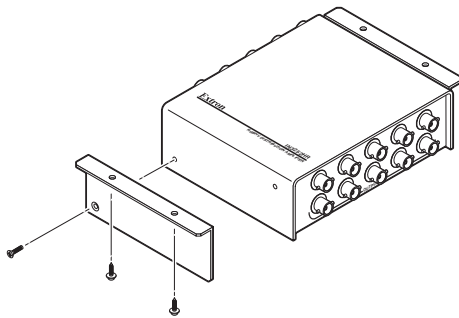

Figure 2 — Desk mounting the IN3252HR
1. Attach the mounting brackets to the distribution amplifier with the provided machine screws (figure 2).